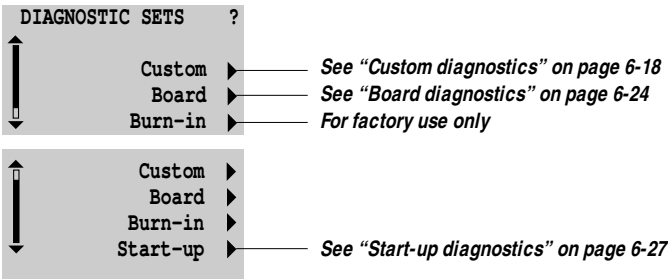

Figure 6-4 Fiery XJ BP100 diagnostic sets
4. *Release the up arrow button as soon as you see the Diagnostic Sets display window. See Figure 6-4.*